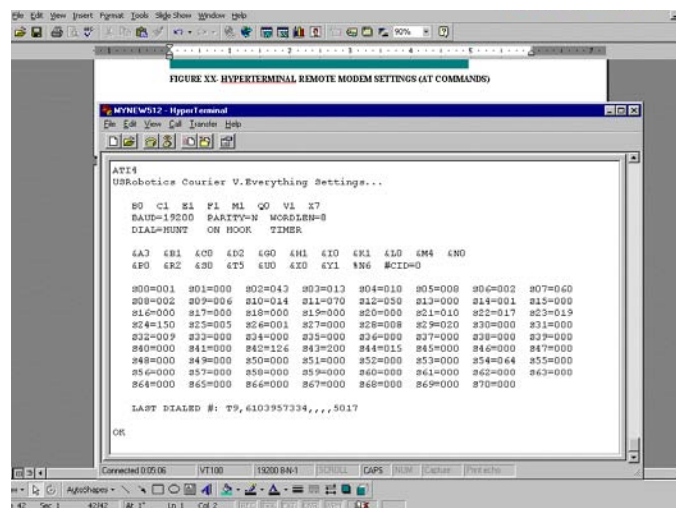

Figure 37 – Local Modem Configuration Parameters
5. Once the OK pushbutton is depressed, the screen depicted in Figure 37 is presented to the operator. AT commands can now be typed to configure the modem with the appropriate parameters for operation in this system.
Local Modem parameters are illustrated in Figure 37. To display the current list of parameters, the command string AT&I4 should be typed in the HYPERTERMINAL environment . A list of the parameters used is shown. The LOCAL modem also may be configured via the dipswitches located underneath the relay.